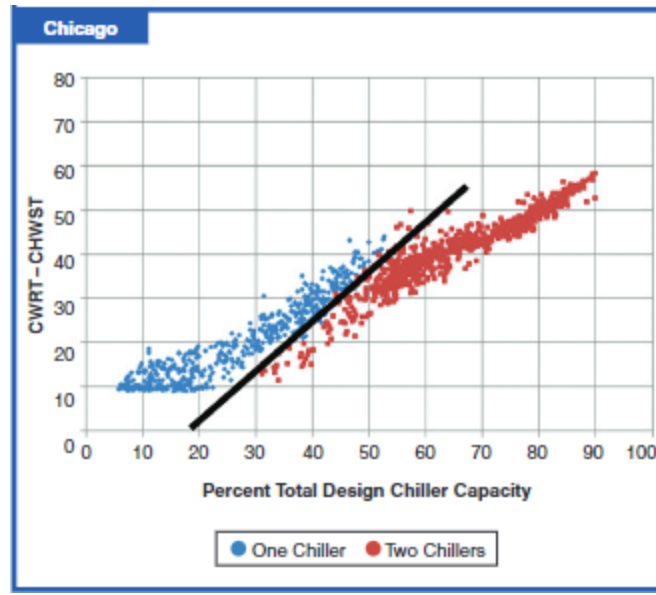

Figure 2. Optimum staging vs. (CWRT-CHWST) and plant part load ratio Chicago (Taylor 2012)
- See research from Steven A. Taylor (Figure 2) (Taylor 2012)
- Two-chiller systems: Calculate “staging” part load ratio (SPLR) using CHWST and condenser water return temperature (CWRT) using Equation (1):